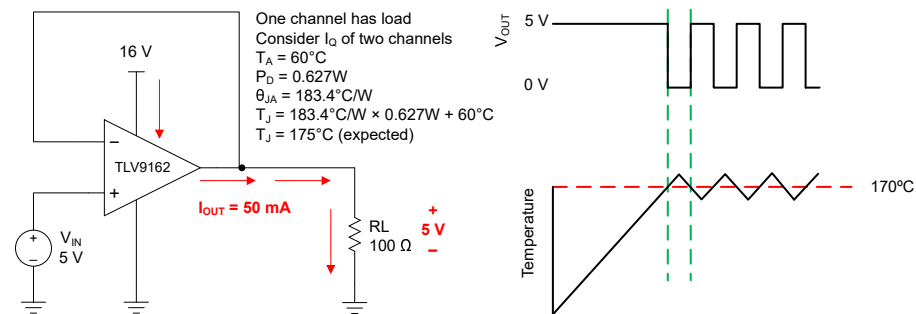

Figure 6-4. Thermal Protection
The internal power dissipation of any amplifier causes its internal (junction) temperature to rise. This phenomenon is called *self heating*. The absolute maximum junction temperature of the TLV916x is 150°C. Exceeding this temperature causes damage to the device. The TLV916x has a thermal protection feature that reduces damage from self heating. The protection works by monitoring the temperature of the device and turning off the op amp output drive for temperatures above 170°C. Figure 6-4 shows an application example for the TLV9162 that has significant self heating because of its power dissipation (0.627 W). In this example, both channels have a quiescent power dissipation while one of the channels has a significant load. Thermal calculations indicate that for an ambient temperature of 60°C, the device junction temperature reaches 175°C. The actual device, however, turns off the output drive to recover towards a safe junction temperature. Figure 6-4 shows how the circuit behaves during thermal protection. During normal operation, the device acts as a buffer so the output is 5V. When self heating causes the device junction temperature to increase above the internal limit, the thermal protection forces the output to a high-impedance state and the output is pulled to ground through resistor R_L . If the condition that caused excessive power dissipation is not removed, the amplifier will oscillate between a shutdown and enabled state until the output fault is corrected. Please note that thermal performance can vary greatly depending on the package selected and the PCB layout design. This example uses the thermal performance of the TSSOP (8) package.